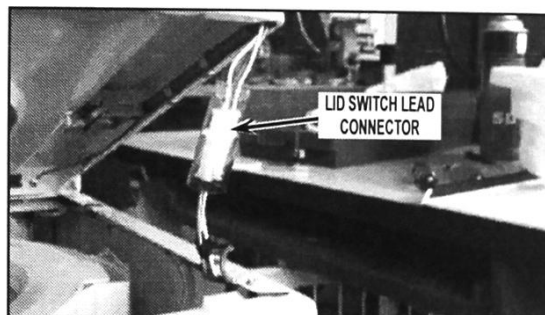

FIGURE 3
6. Disconnect lid switch lead connector from main wiring harness as shown in Figure 3 and remove top assembly from unit.